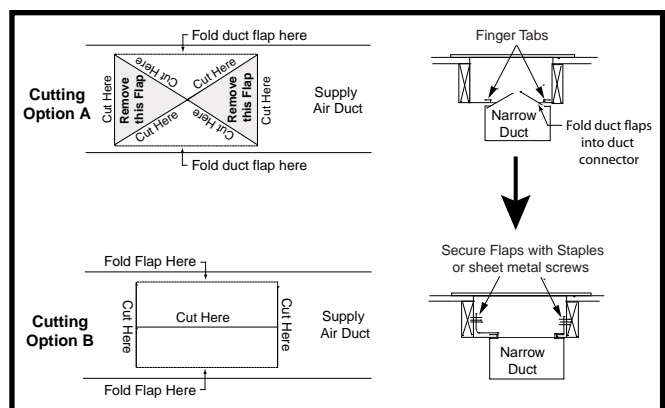

Figure 16. Narrow Air Ducts - Option 1
1. Select Option A or Option B in Figure 16 and cut the top of the supply air duct. Remove metal flaps from the duct (shaded area) if Option A is selected.
5. Form the duct flaps up against the side of the duct connector as tight as possible. See Figure 16
1. Cut and remove the top of the supply air duct as shown in Figure 16.